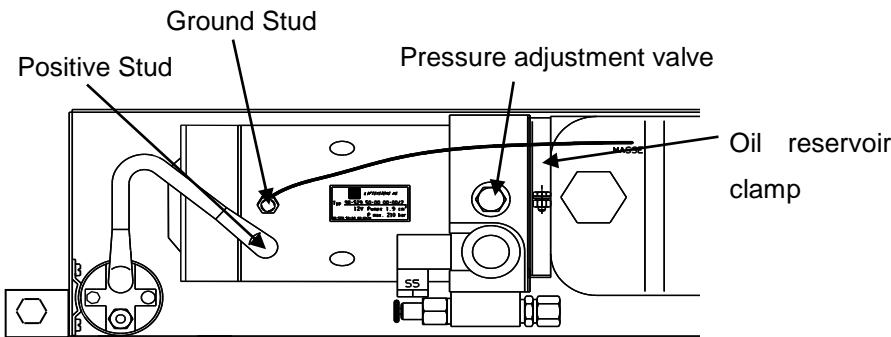

Fig. 24
3. Unscrew the oil drainage bolt (bottom of tray) and let the fluid drain out of the reservoir into an approved container, **Fig. 24**. When the reservoir is empty fill it up with hydraulic oil.